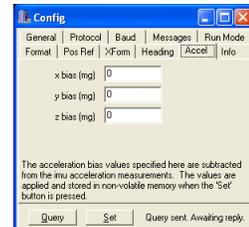

Figure 2. Accel tab.
3. Select the "Accel" tab of the MIDG Config dialog box (Figure2)
4. Enter a zero (0) for the "x," "y," and "z" biases. Press the "Set" button to send these to the unit.